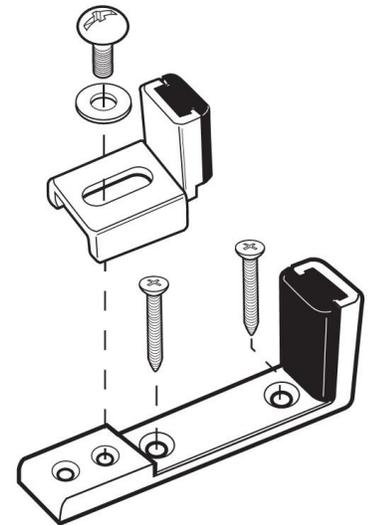

Figure 14A
The Bottom Door guide (V) keeps the door from swinging outward away from the wall. To locate the proper installation position in the floor, slide the door into the closed position and mark the outside edge of the door on the floor. Now place the door into the open position and mark the inside edge of the door on the floor. Make sure your guide location is well marked. Make sure that whether the door is in the open or closed position, that the door NEVER leaves the Door guide. This is the proper location for the Door guide. Set the width of the floor guide to 1 1/2". Slide the door out of the way and place it on the floor in between the 2 marks. Pre-drill holes if necessary for your floor type. Using a drill and the screws provided, secure the Door guide to the floor. See Figure 14A-14B-14C.